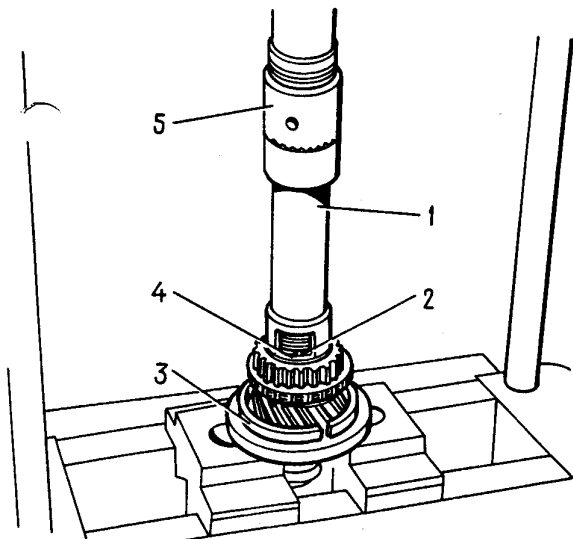

Fig. 3-28. Installing Main Shaft Lockring:
- install the main shaft with tool 41.7816.4069 on a press (Fig. 3-28), put supporting half-rings 3 under the 3rd speed gear and, pressing on the spring washer with the tool, remove lockring 2; then remove spring washer 4, the hub of the 3rd and 4th speed sliding shift sleeve and the 3rd speed gear.